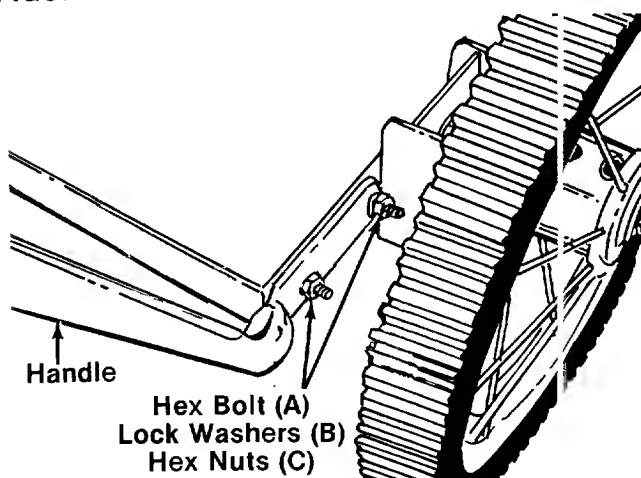

FIGURE 2.
1. Line up the holes in the handles with the holes in the frame. Secure with hex bolts (A), lock washers (B) and hex nuts (C). See figure 2.